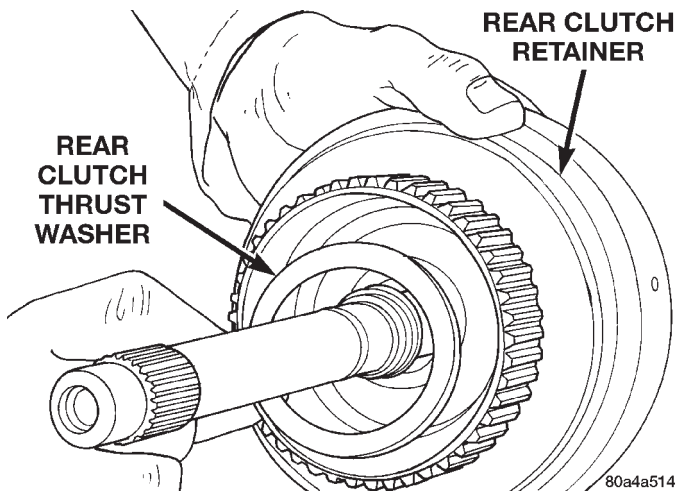

Fig. 171 Installing Rear Clutch Thrust Washer
(16) Coat rear clutch thrust washer with petroleum jelly and install washer over input shaft and into clutch retainer (Fig. 171). Use enough petroleum jelly to hold washer in place.
(17) Set rear clutch aside for installation during final assembly.